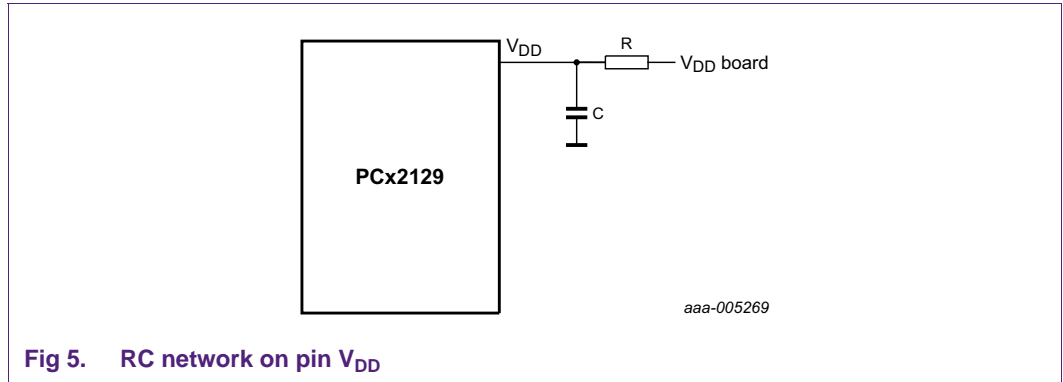

Fig 5. RC network on pin V_{DD}
- higher than some mA it is recommended to add an RC network on the V_{DD} pin, as shown in Figure 5.